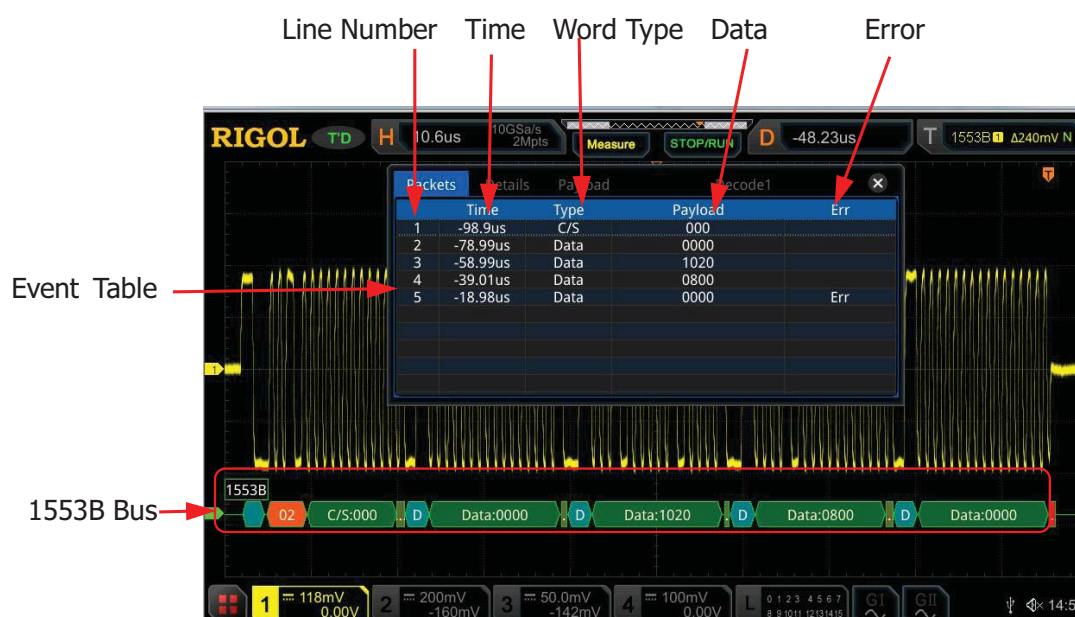

Figure 11-15 1553B Decoding Event Table
- Open or close the event table: Press **Event Table** continuously to enable or disable the event table. When you enable the event table, the following figure is displayed, as shown in Figure 11-15. You can also enable the touch screen to tap the icon  at the upper-right corner of the table to close the event table. Besides, when the operating status is "STOP", you can also rotate the multifunction knob  to select a specified line and view the corresponding decoding information.